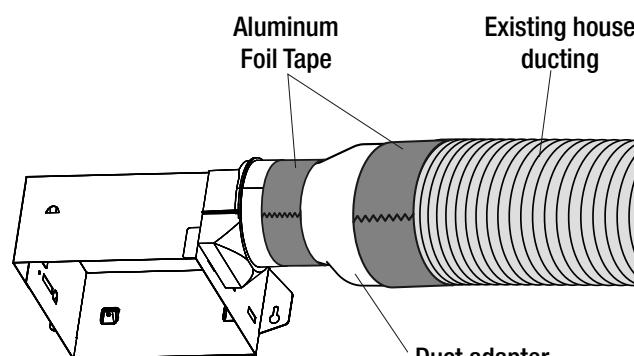

Fig. 12 Duct adapter
- If using a flexible duct connector or duct adapter, use aluminum foil tape at each end to secure the connector or adapter to the existing ducting and to the fan's damper. See figure 12.